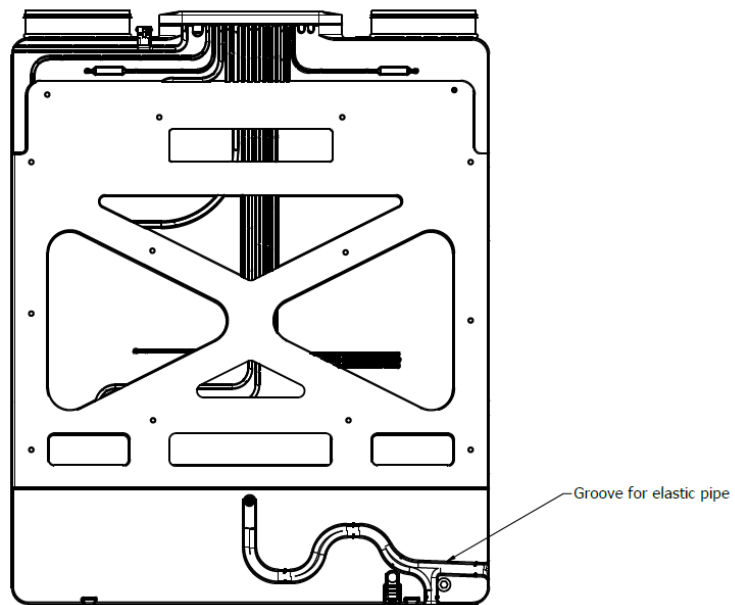

Figure 19 – elastic pipe installation
2. Connect elastic pipe to the elbow and place the tube inside groove (see figure 19). Groove is formed in a siphon shape, hence additional siphon is not needed.